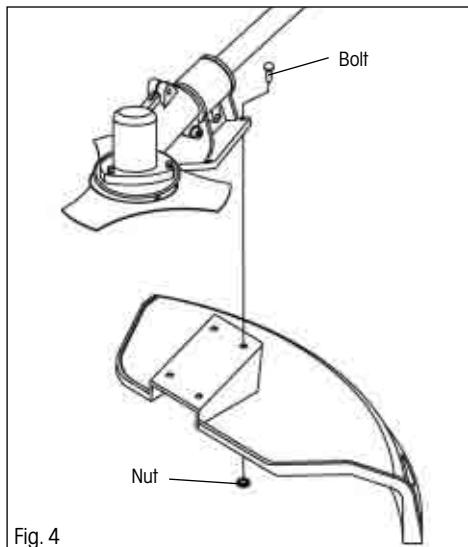

Fig. 4
- Install the protective guard on to the shaft using the supplied screws and nuts (see fig. 4)